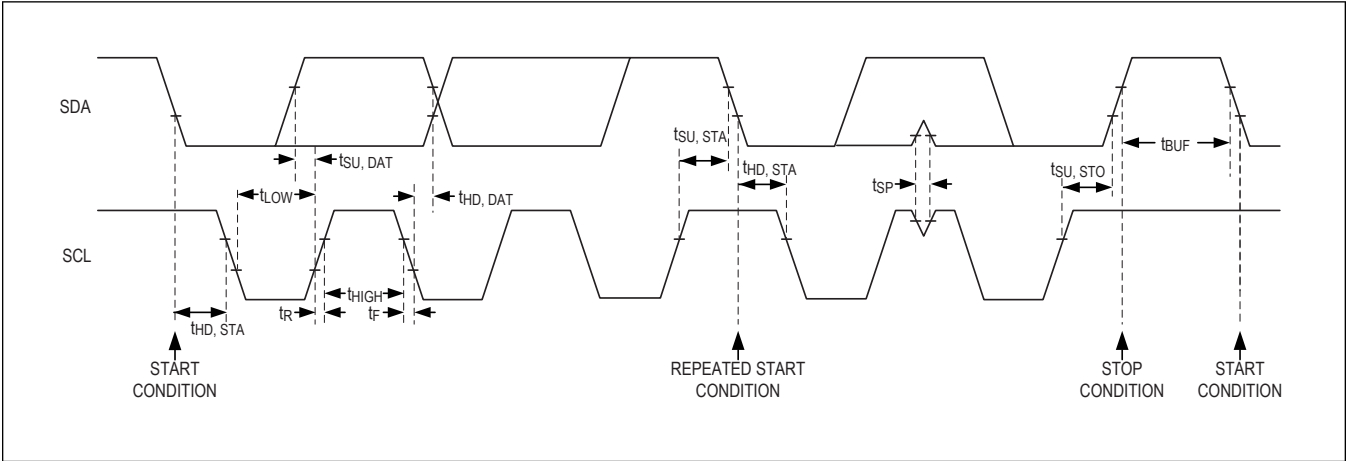

Figure 9. Detailed I²C Timing Diagram
Figure 9 shows the 2-wire interface timing diagram. The controller generates SCL and initiates data transfer on the bus. The controller device writes data to the MAXM86161 by transmitting the proper target address followed by the register address and then the data word. Each transmit sequence is framed by a START (S) or REPEATED START (Sr) condition and a STOP (P) condition. Each word transmitted to the MAXM86161 is 8 bits long and is followed by an acknowledge clock pulse. A controller reading data from the MAXM86161 transmits the proper target address followed by a series of nine SCL pulses. The MAXM86161 transmits data on SDA in sync with the controller-generated SCL pulses. The controller acknowledges receipt of each byte of data. Each read sequence is framed by a START (S) or REPEATED START (Sr) condition, a not acknowledge, and a STOP (P) condition. SDA operates as both an input and an open-drain output. A pullup resistor is required on SDA. SCL operates only as an input. A pullup resistor is required on SCL if there are multiple controllers on the bus, or if the single controller has an open-drain SCL output. Series resistors in line with SDA and SCL are optional. Series resistors protect the digital inputs of the MAXM86161 from high voltage spikes on the bus lines, and minimize crosstalk and undershoot of the bus signals.
The detailed timing diagram of various electrical characteristics is shown in Figure 9.